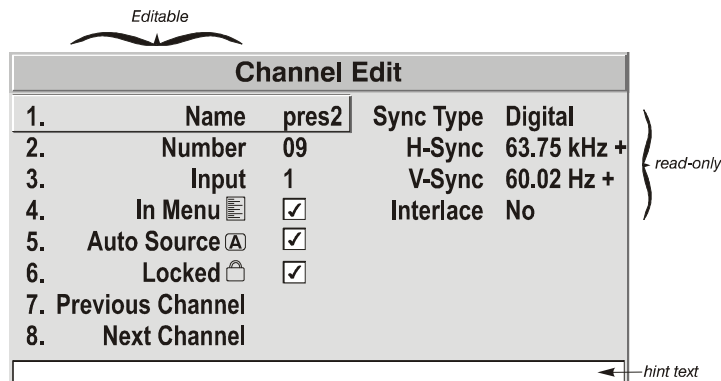

Figure 3-16 Channel Edit Menu (SAMPLE)
2. To edit parameters shown in the **Channel Setup** menu, select the relevant channel, and press **↩**. The **Channel Edit** menu appears as shown in *Figure 3-16*.